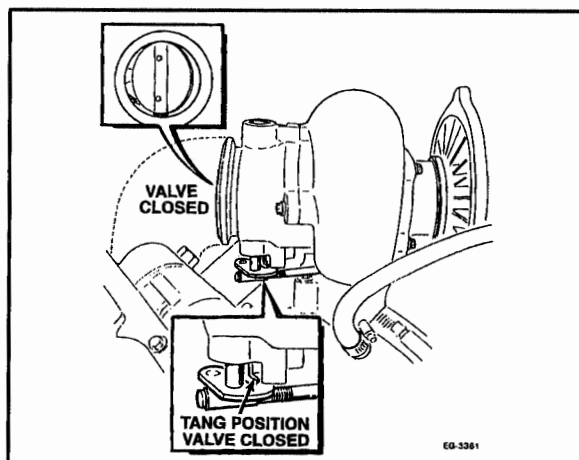

Figure 2.2-3. – Exhaust Back Pressure Valve Closed
5. Exhaust back pressure device bell crank (If equipped) (**Figure 2.2-3.**) during cranking and assure it is not closing. If the tang is positioned as shown in **Figure 2.2-3.**, the exhaust (butterfly) valve is closed.